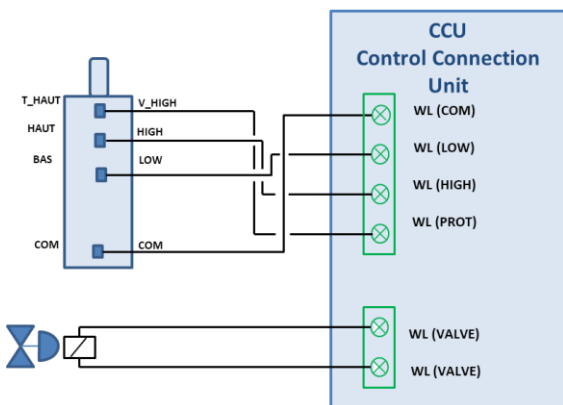

Figure 55 - Connecting Water Level
- Connect the 4 cores to the connector on J20 (see Figure 55 - Connecting Water Level).
- Connect the 2-core wire from the valve solenoid to the connector on J20 marked (VALVE) according to Figure 55 - Connecting Water Level. Polarity is not important.